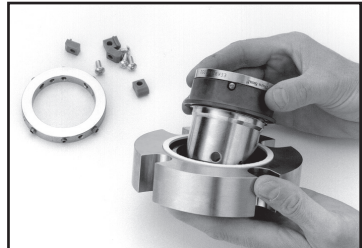

Figure 8
- 4.2.5 **Turn the assembly "gasket side up"** and lift out the sleeve and rotor. See Figure 8.